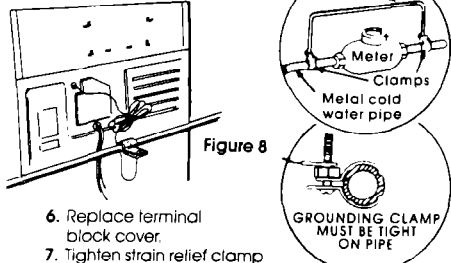

Figure 8
5. Connect a separate copper grounding wire (No. 10 minimum) to a grounded cold water pipe* by means of a clamp and then to the frame of the appliance at the external grounding connector. Use Part No. 685463 grounding wire and clamp assembly. **Do not ground to a gas supply pipe or hot water pipe.** Do not connect the power supply cord to electric power supply until appliance is permanently grounded. See Figure 8.